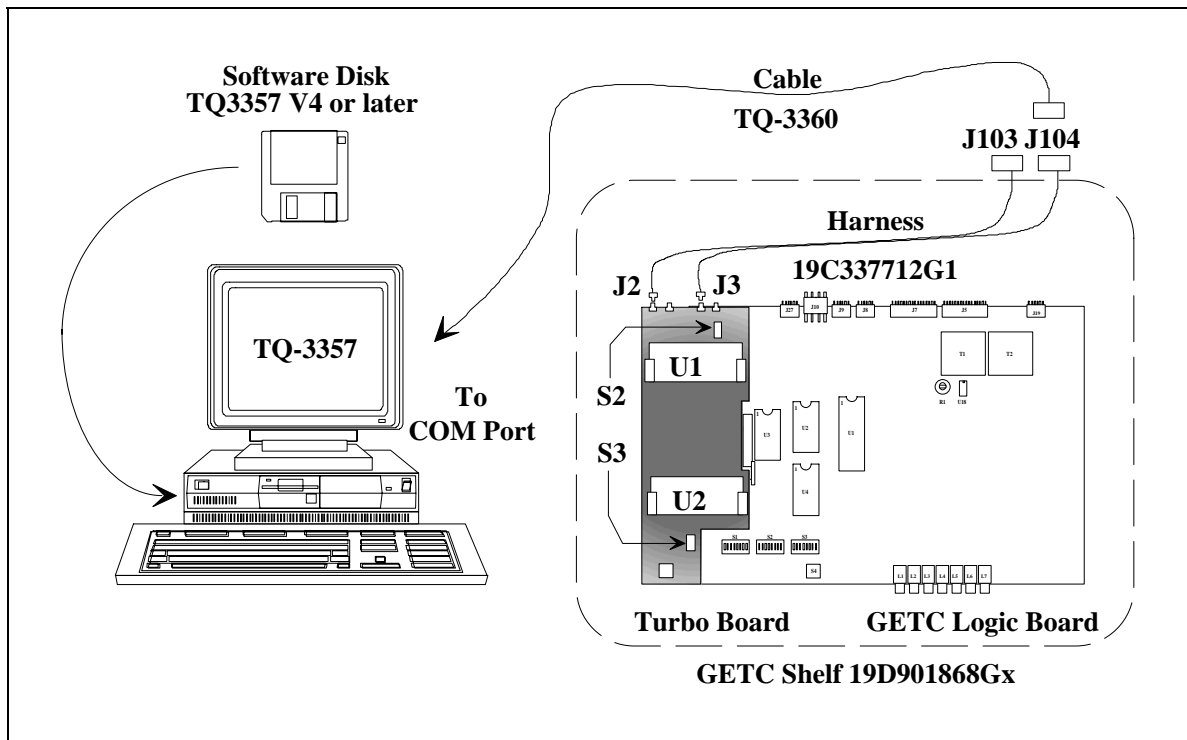

Figure 21 - System Hook-Up Using J104
1. Connect one end of the serial programming cable (TQ-3360) to the computer. Connect the other end of the cable to the GETC Shelf connector J104. See Figure 21.